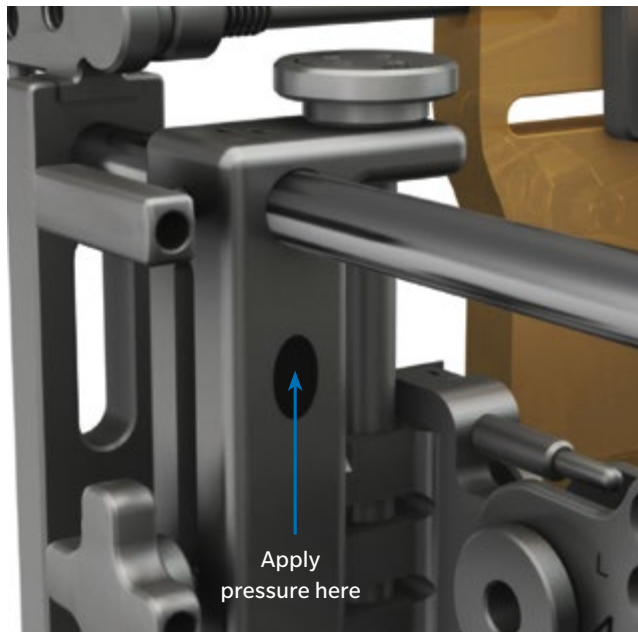

Fig. 35
- ⓘ **Note:** The Lateral Cut Guide Assembly slides best when pressure is applied at the oval etch indicated (Fig. 35).